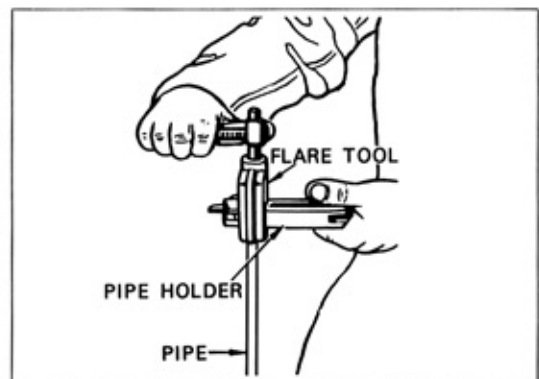

Fig. 47
3. Flare the tube with the flare tool as shown in Fig. 47.